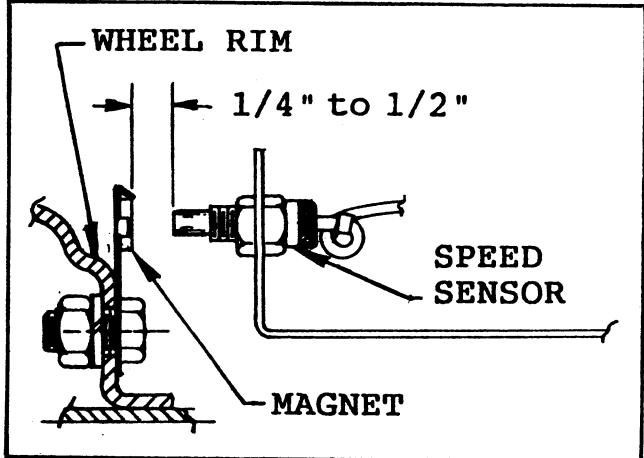

FIG. 4
- Mount the magnet clip to the inside of the Vehicle's left-front wheel. Use the 7/16" bolt, lock washer and nut (in parts bag) to secure the clip to one of the square holes in the wheel rim. See FIG. 4.
■ Turn one 3/8" locking nut onto the sensor and insert the sensor into the large hole in the mounting bracket as shown in FIG. 4. and turn on remaining lock nut. Adjust nuts until the tip of the sensor extends a minimum of 1/4 inch beyond the locking nut.